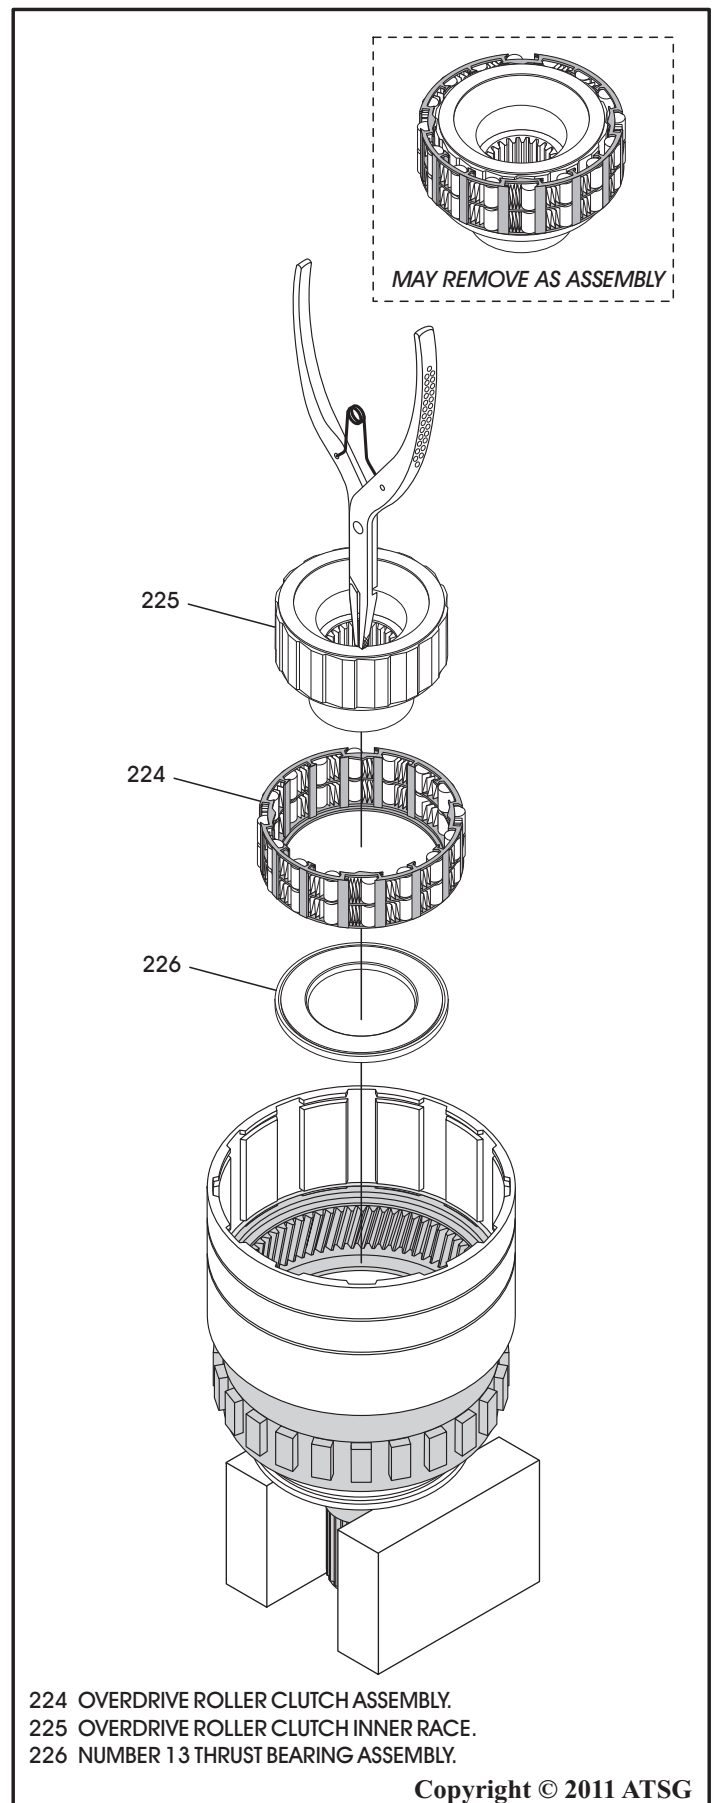

Figure 162
29. Using snap ring pliers, reach in and remove the overdrive roller clutch inner cam, as shown in Figure 162.
30. Remove the overdrive roller clutch assembly, as shown in Figure 162.
- Note: Overdrive roller clutch inner cam and overdrive roller clutch may come out together, as shown in Figure 162.**
31. Remove the number 13 thrust bearing, as shown in Figure 162.